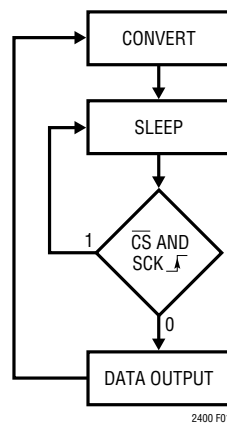

Figure 1. LTC2400 State Transition Diagram
The LTC2400 is a low power, delta-sigma analog-to-digital converter with an easy to use 3-wire serial interface. Its operation is simple and made up of three states. The converter operating cycle begins with the conversion, followed by a low power sleep state and concluded with the data output (see Figure 1). The 3-wire interface consists of serial data output (SDO), a serial clock (SCK) and a chip select (CS).